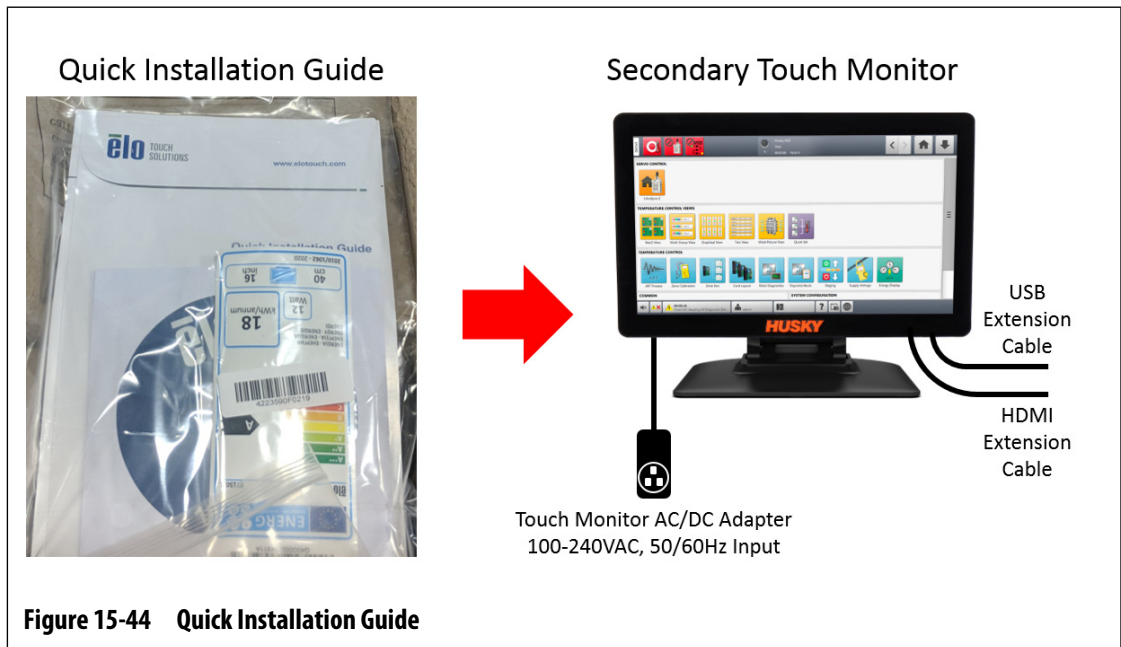

Figure 15-44 Quick Installation Guide
9. Refer to the Quick Installation Guide (in the box for the secondary touch monitor) for instructions about how to correctly install the stand and connect the AC/DC Adapter, USB Extension cable (USB Type B connector end), and HDMI-to-DVI Extension cable to the secondary touch monitor. Refer to Figure 15-44.